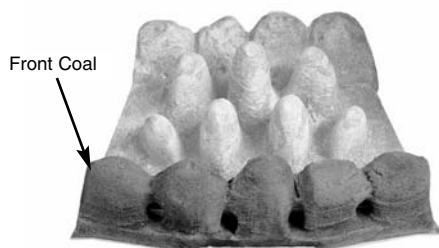

Fig. 24
3. Position the front coal on the front coal retainer, making sure that the back edge is pushed up against the front of the burner strip (Fig. 24).